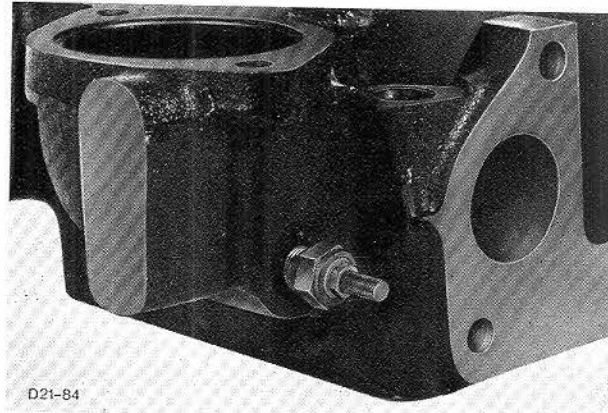

Fig. 79. Temperature sender unit.
7. Refit inlet and exhaust manifold studs and temperature under unit, Fig. 79.